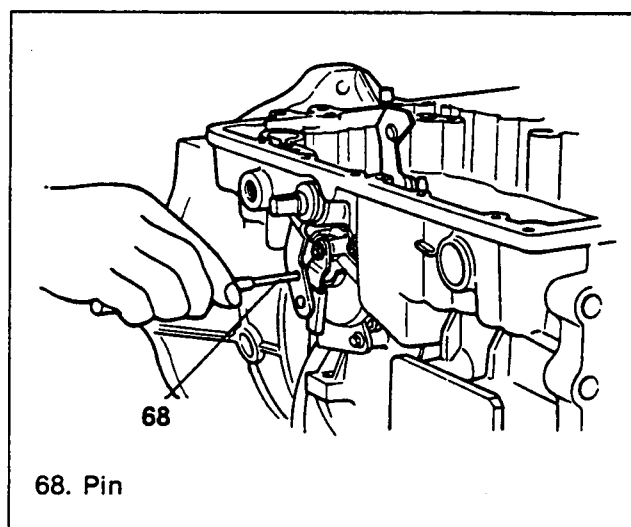

Figure 241. Inhibitor Switch Alignment
4. Insert pin (4.0 mm / 0.16 in in diameter) vertically into the hole, which decide the positions of the inhibitor switch and the manual shaft lever, and bolt them (figure 241).